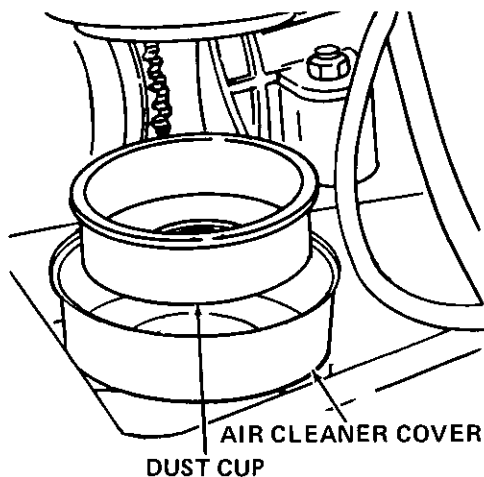

Figure 36
2. Remove and clean out the dust cup every day if the work surroundings are dusty. Never allow dust cup to become half full with dust. (See Figure 36.)